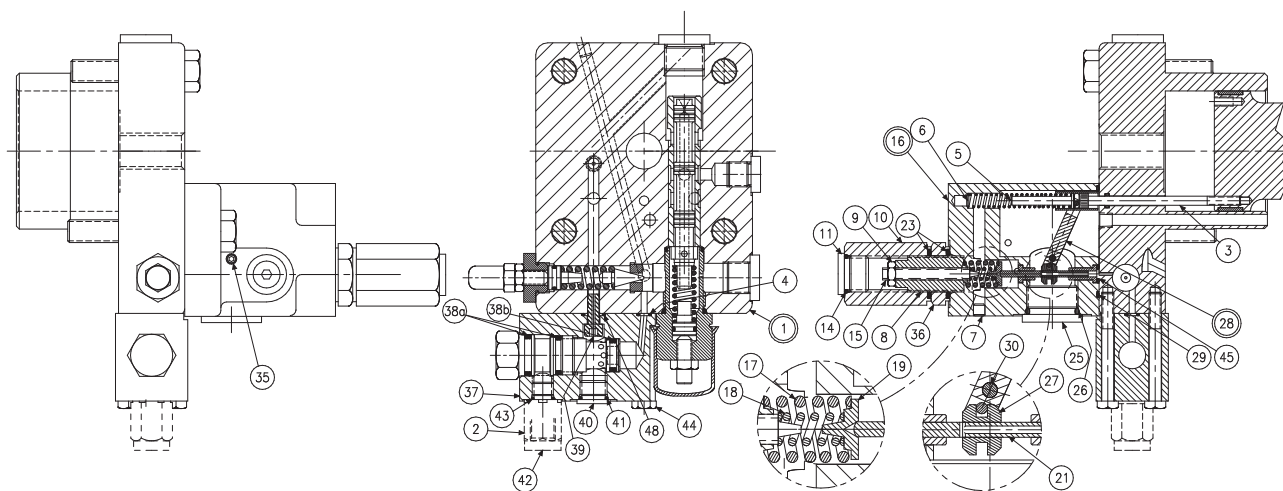

FIGURE 13
| 3 | Buck Up Cap (Fig. 13) | S22-15653 | S22-15653 | 1 | 1 |
| 2 | ***Low Torque Limiter Load Sensing (Fig. 13) | S22-15790 | S22-15802 | 1 | — | — | — |
| | ***High Torque Limiter Load Sensing (Fig. 13) | S22-16191 | S22-16192 | — | 1 | — | — |
PARTS LIST FOR FIGURE 13
1. **See Figure 13.** Remove 2 screws holding torque limiter body (16) to cap assembly (1).
2. Remove all parts from torque limiter body (16) except pin (30) and arm assembly (28). It is not necessary to remove these parts unless broken or worn. Examine parts for wear or damage.
3. Remove screw (3). Examine head for excessive wear, and body for smooth sealing surface with O-ring.
5. Remove modulating valve (38) from body (37). Remove body (37) from cap assembly (1) Note plug (40) must be removed to remove special screw (39). Remove cap assembly (1).
2. Press seat (10) into bore squarely against shoulder in bore.
3. Install plug (12) and spool (18) into bore as shown. Install spring (11) over end of spool. Install O-ring (6) on seal piston (16). Lubricate and install into plug (15). Install plug (15) into cap. Install screw (3), nut (4) and cover (17).
4. Install O-ring (6) on seal piston (5).
5. Lubricate O-ring and install cone (8), spring (7) and seal piston into bore in cap (1), being careful that cone enters seat (10). Install remaining parts in body (1)
8. **See Figure 13.** Install block (37) on cap (1) with O-rings (4) and (48). Use special screw (39) through the block.